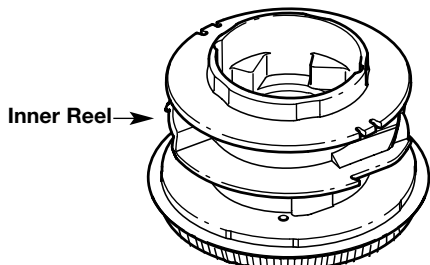

Fig. 28
4. Remove any existing line from the inner reel before cleaning. Remove any debris or grass from the knob, spring, inner reel, and foam seal. Wash the inner reel with warm soapy water (Fig. 28).